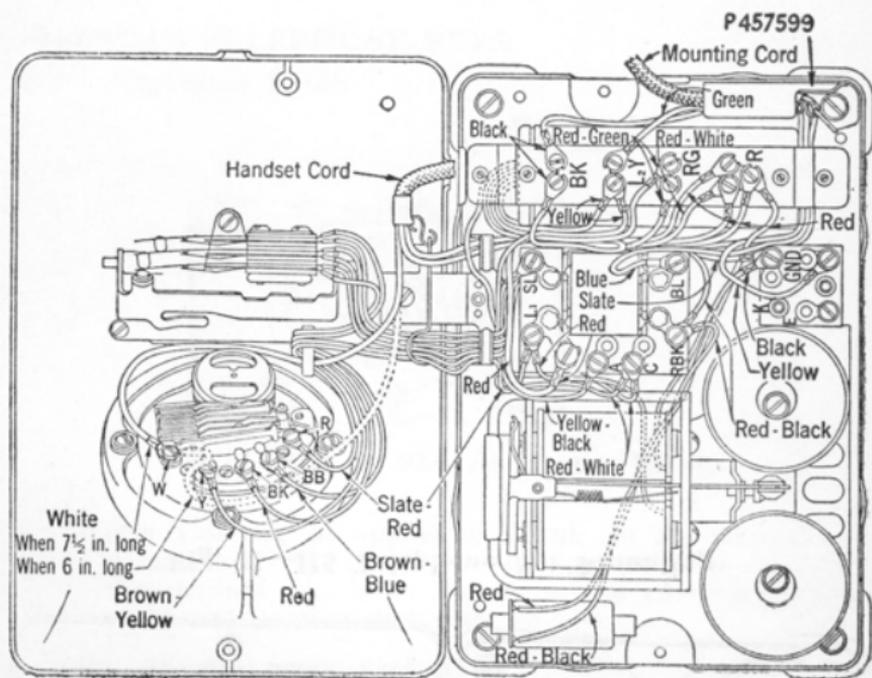

Fig. 12—H7 Telephone Set Mounting (see Paragraph 1.05)
1.05 The 307F, 307G and 307H telephone sets are corded as shown in Fig. 12 except that the red-white conductor shown running to terminal R is connected to terminal E and the green (fourth) hand set conductor (not shown) is also